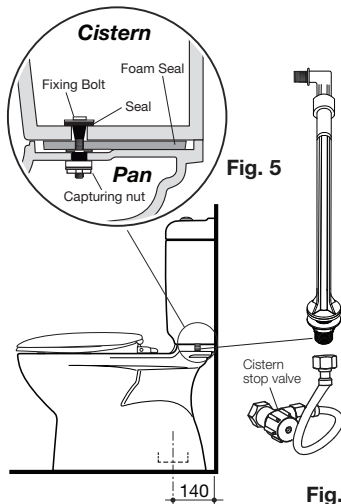

Fig. 5
- 1- Fit capturing nuts into pan close coupled fixing holes. Securely attach the foam seal around the outlet on the base of cistern, position cistern onto pan and align the cistern fixing holes with capturing nuts located on the cistern platform. Inset & tighten fixing bolts with a screwdriver to secure the cistern to the pan, as detailed in Fig. 5.